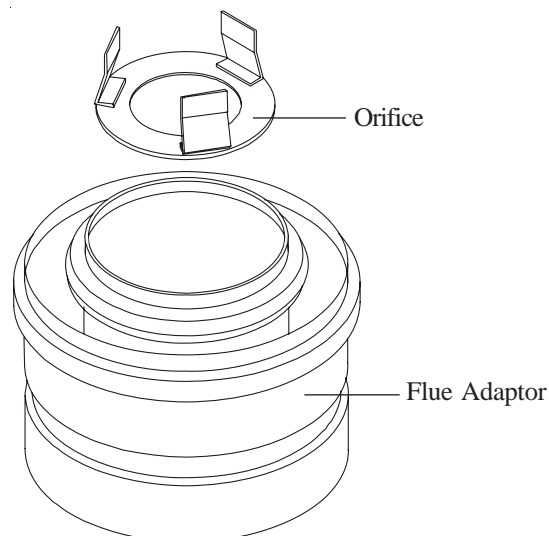

Fig. 3
- 5.1.9 If a 'short flue' is used, the factory fitted flue orifice **MUST** be left in place (see Fig.3).